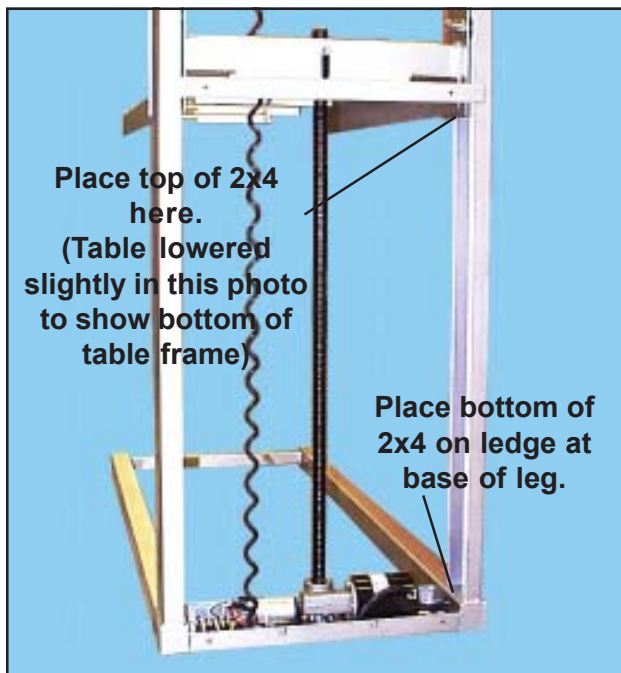

Figure 26. Position of 2x4 on Table
11. Tightly tape two 33.5-in. long 2x4s to the insides of the table legs. Each 2x4 should fit between the ledge at the base of the legs and the bottom of the frame on the table (Figures 26 and 27). Use any kind of tape as long as it holds the 2x4s firmly in place (electrical tape, fibre tape, duct tape, etc.). **Note:** Do not place the lower ends of the 2x4s in the bottom tray as they might damage internal components or wiring.